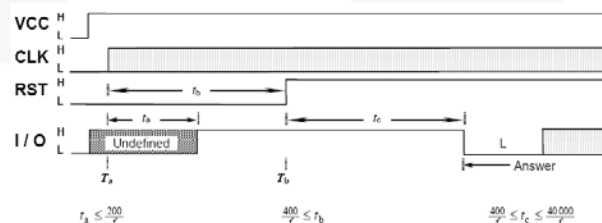

Figure 13. Activation Timing (ISO 7816-3 2006)
To ensure the SIM card electrical circuits do not activate before the contacts of the SIM card are mechanically connected, ISO7816-3 2006 mandates the activation sequence of events described in Figure 13. The FXLA2203 provides full transparency to the activation timing between host and SIM card.
5. Begin activation timing (Figure 13).